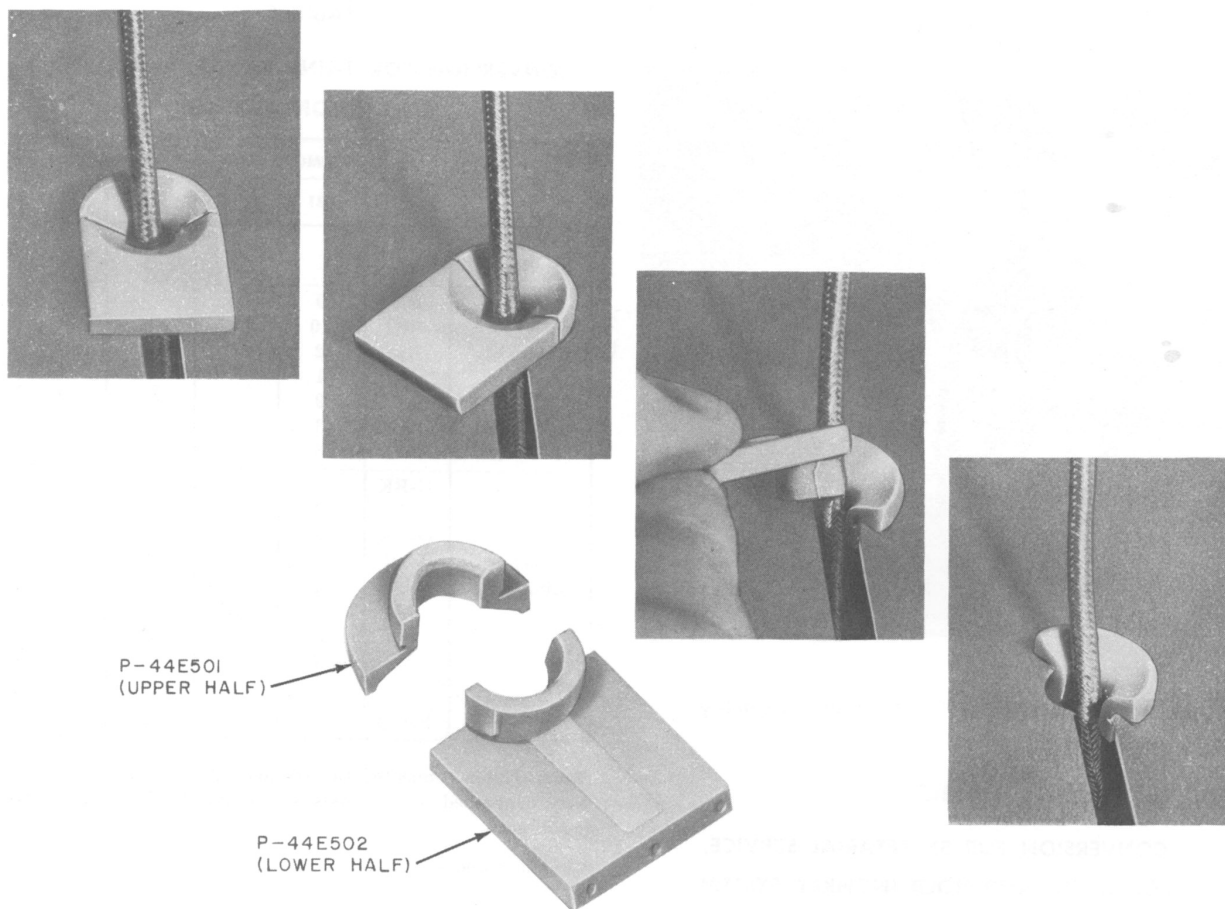

Fig. 4—Removal of Handset Cord Grommet
- (1) Grasp mat retainer frame at top, lift upward and out to release frame from panel of set.
- (2) Remove handset from hook of set.
- (3) Pull out handset cord to allow working slack.
- (4) Remove mat from face of panel.
- (5) Remove grommet from mat as shown in Fig. 4.
- (6) Install grommet in new mat by reversing procedure used in removal.
- (7) Position mat on panel and secure using the mat retainer frame.